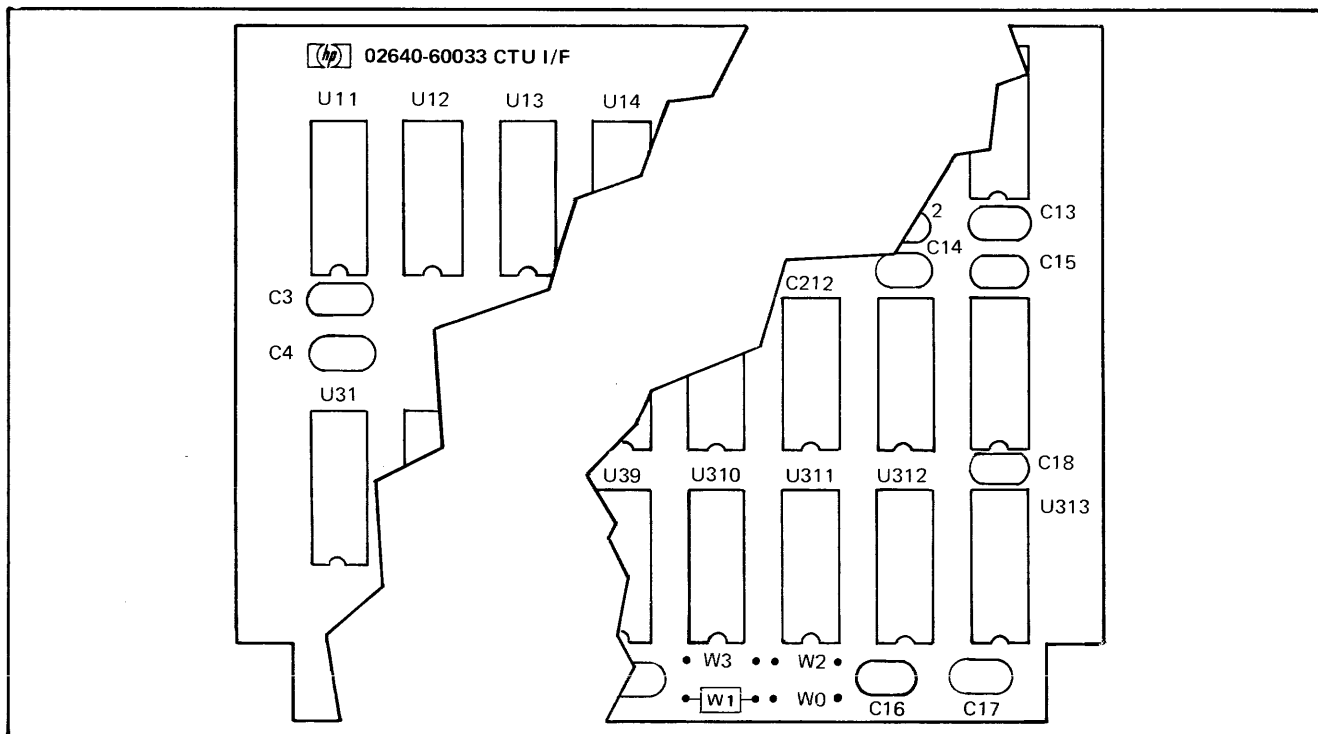

Figure 1-7. CTU Interface PCA Jumper Configuration
- c. Ensure that CTU Interface PCA jumper configuration is as shown in figure 1-7 and, depending on available space, install PCA in next to last or third from last Backplane Assembly connector as shown in figure 1-1.